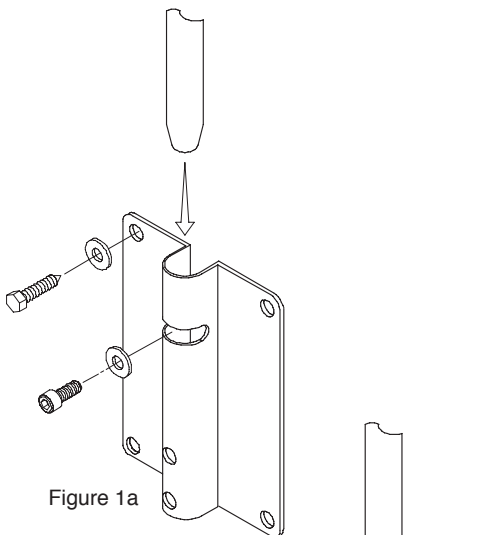
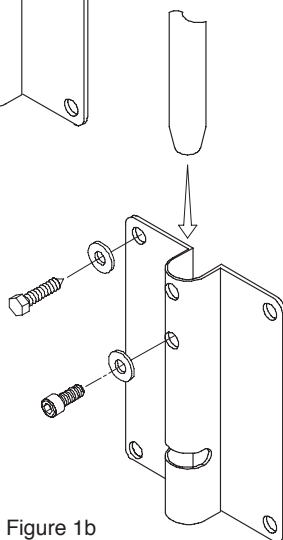

Figure 1a
Figure 1b
To enable the pan angle option, attach the wall mounting plate to the wall with the open center slot towards the ceiling using the appropriate hardware for the wall structure (Figure 1a).
To disable the pan angle option, attach the wall mounting plate to the wall with the open center slot towards the floor using the appropriate hardware for the wall structure (Figure 1b).
**Step 3:** Lift the assembled speaker with the support arm and insert the support arm into the top of the wall mounting plate. Line up the threaded hole of the support arm with the open slot for pan angle installation (*Figure 1a*) or to the second barrel hole for no pan angle installation (*Figure 1b*) of the wall mounting plate. Install the included socket screw and flat washer until snug.